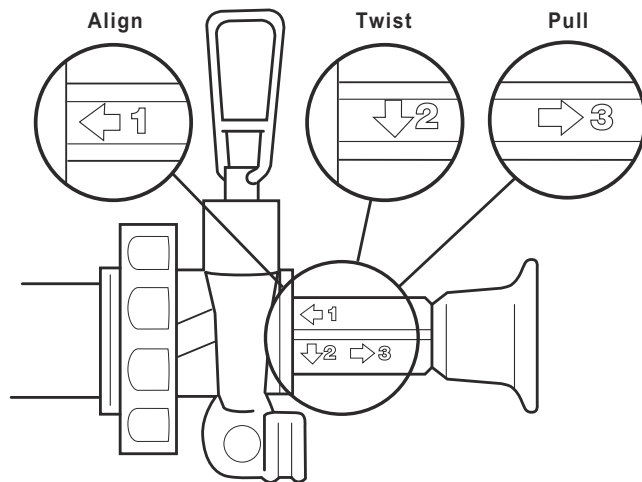

Figure 14-10. Remove the Plunger.
- Remove plunger (align, twist, and pull). See figure 14-10 on page 14-17.